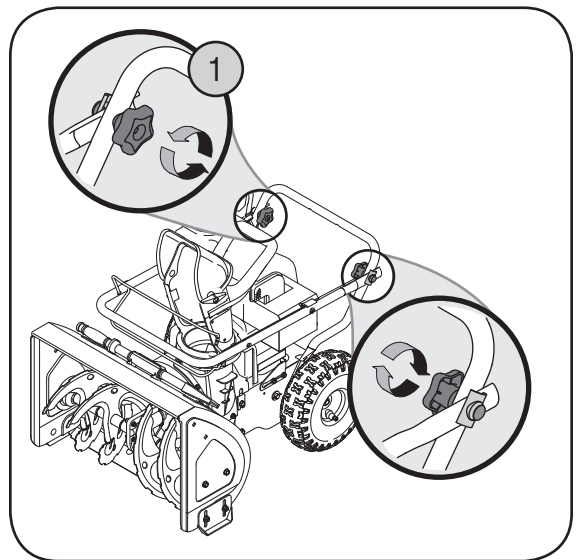

Figure 2
2. Loosen the handle knob and handle tab on each side of the handle. See Figure 2.